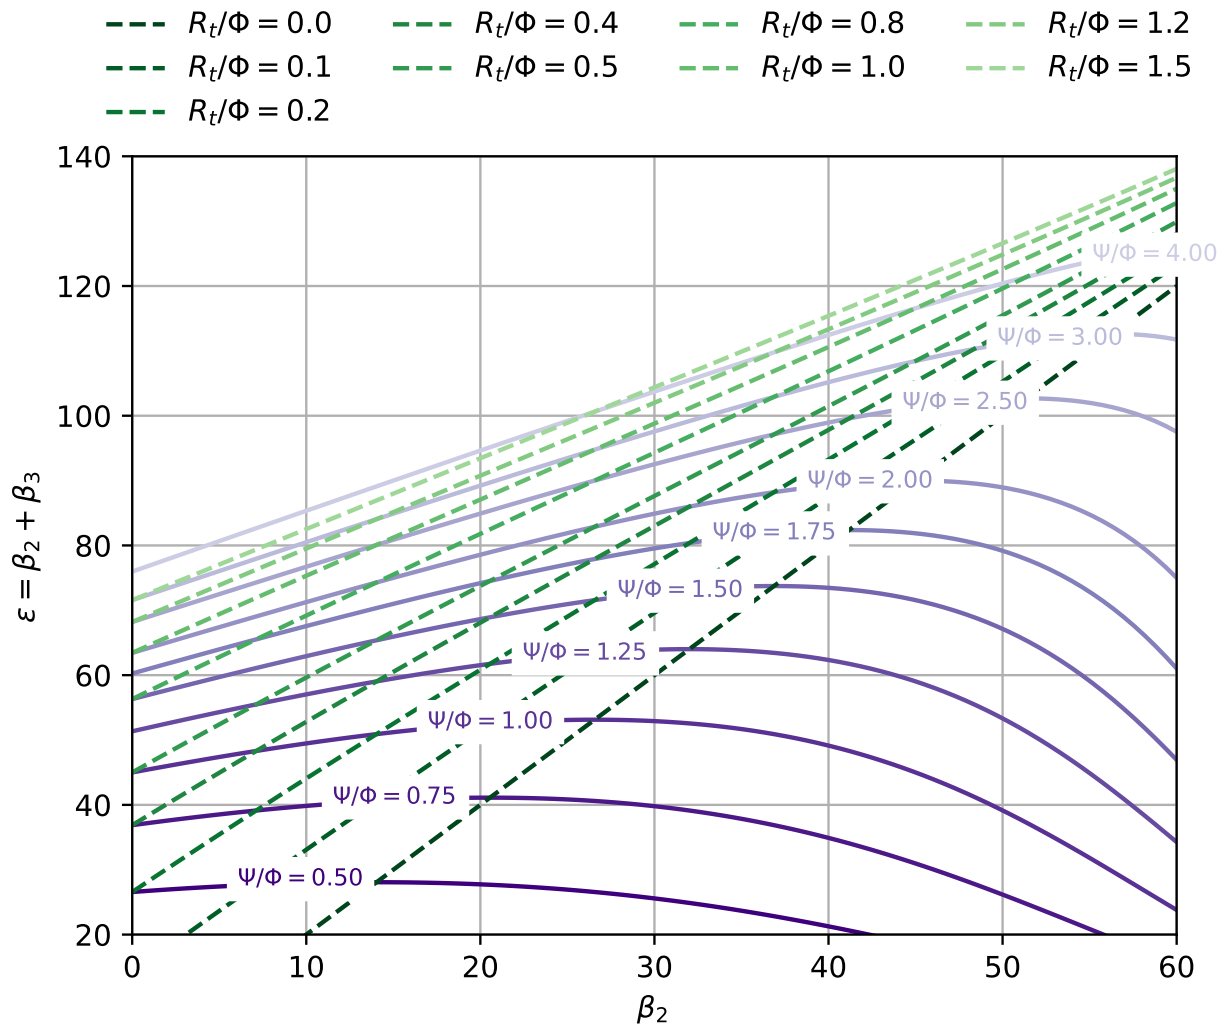

Figure 3: High pressure turbine (HPT) design for constant axial speed.
- select a set of suitable parameters (R_t , Ψ , Φ , etc.) from Figure 3;